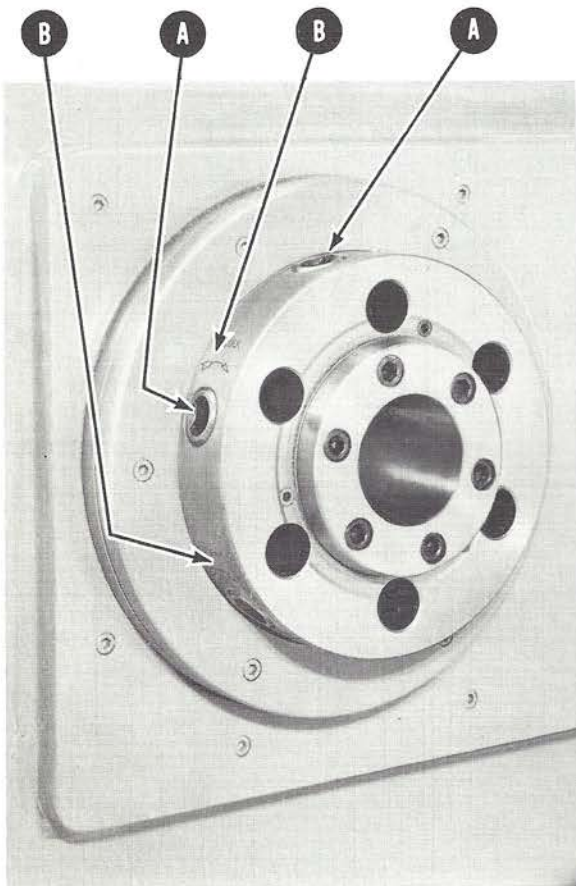

FIGURE 10 612 LATHE AMERICAN STANDARD CAMLOCK SPINDLE NOSE
There are six camlocks in the spindle nose. Two of them, (A) Figure 10, clearly show in the illustration. The small indicating line on camlocks (A) indicates that they are in the unlocked position because these lines are parallel with the spindle face. Arrows (B) show the direction in which the camlocks should be rotated for tightening. When this is done, it is important that the camlocks be tightened evenly. Do this gradually, rotating the spindle from one to the other until all the locks are tight.